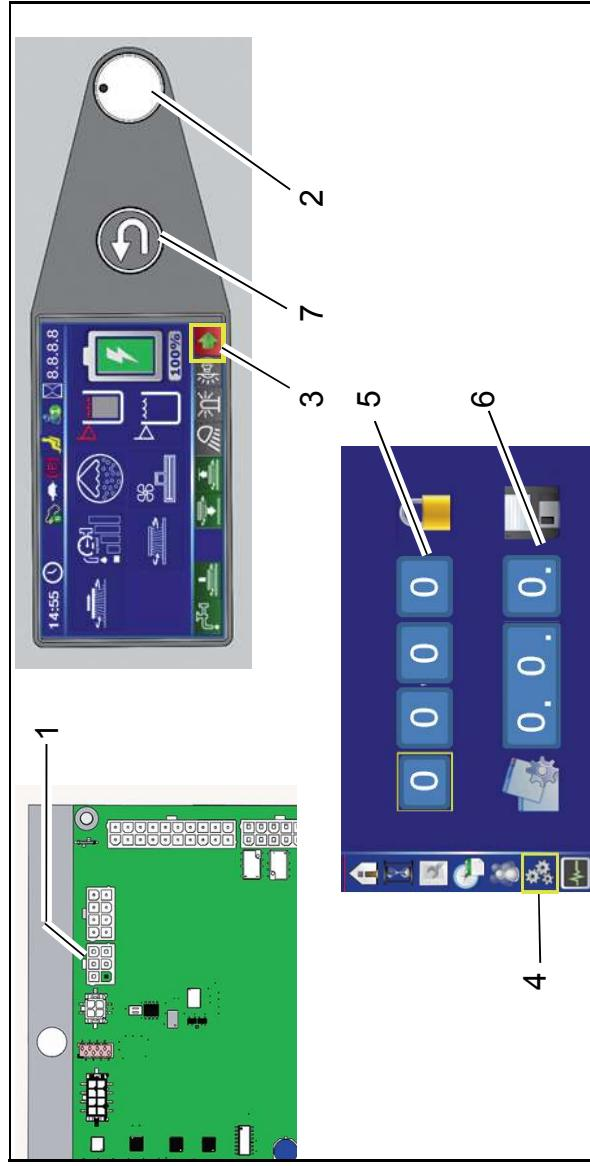

Fig. 3
Plug diagnosis plug into slot X20 of controller A1 (Fig. 3/1).
- Select the arrow soft key (Fig. 3/3) on the control panel using the turn-push knob (DDS)(Fig. 3/2) and press to access the sub-menu.
- Select the configuration menu in the sub-menu (Fig. 3/4).
- In the configuration menu at the bottom (Fig. 3/6), set the value of the option and save by pressing the DDS. After confirming the last digit, OK? appears. Press DDS again to save the value. Saved value is displayed in green.
If the value is not to be saved, exit menu using the return key (Fig. 3/7).
- Enter the 4-digit code in the configuration menu at the top (Fig. 3/5);